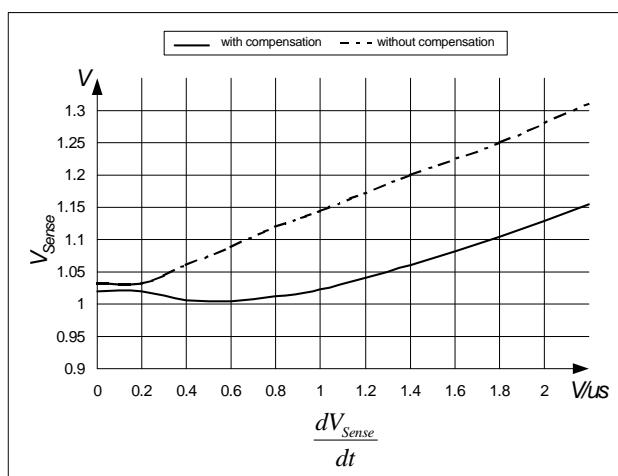

Figure 19 Overcurrent Shutdown
E.g. $I_{\text{peak}} = 0.5\text{A}$ with $R_{\text{Sense}} = 2$. Without propagation delay compensation the current sense threshold is set to a static voltage level $V_{\text{csth}} = 1\text{V}$. A current ramp of $dI/dt = 0.4\text{A}/\mu\text{s}$, that means $dV_{\text{Sense}}/dt = 0.8\text{V}/\mu\text{s}$, and a propagation delay time of i.e. $t_{\text{Propagation Delay}} = 180\text{ns}$ leads then to a I_{peak} overshoot of 14.4%. By means of propagation delay compensation the overshoot is only about 2% (see Figure 19).